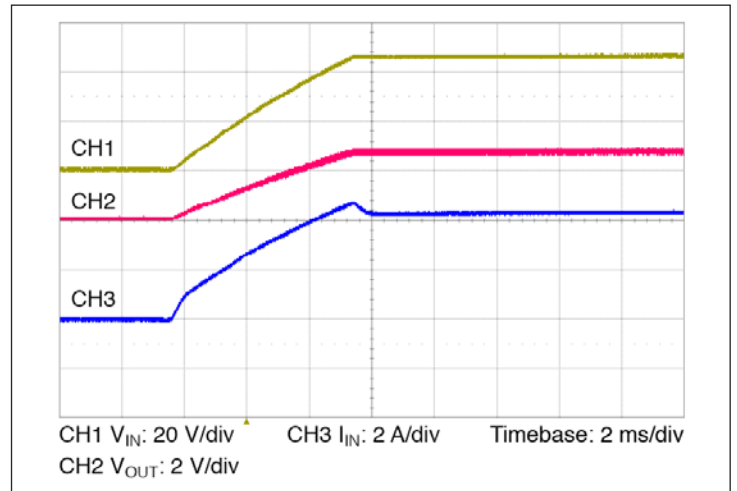

Figure 10 — Start up from application of V_{IN} ; VC pre-applied $C_{OUT} = 16000 \mu F$
- **Normal operation (VC applied prior to V_{IN}):** In this case the controller is active prior to ramping the input. When the input voltage is applied, the VTM module output voltage will track the input (See Figure 10). The inrush current is determined by the input voltage rate of rise and output capacitance. If the VC voltage is removed prior to the input reaching 26 V, the VTM may shut down.